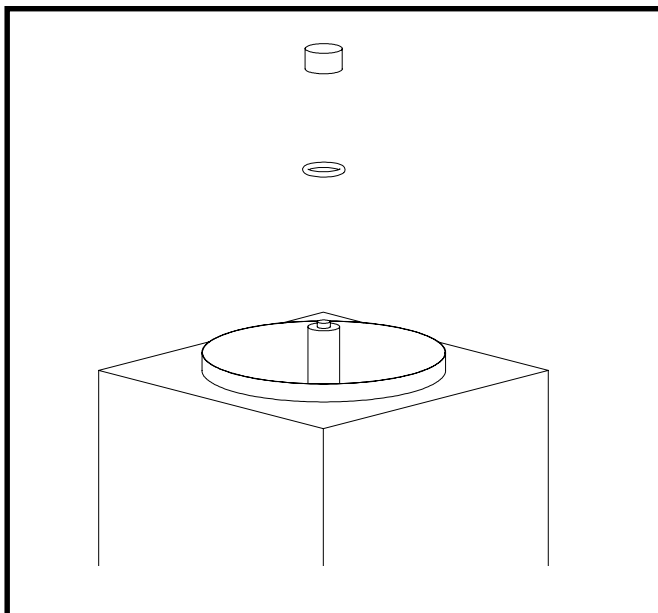

Figure 18
1. Remove the drive cap and O-ring from the agitator tube (Fig.18).